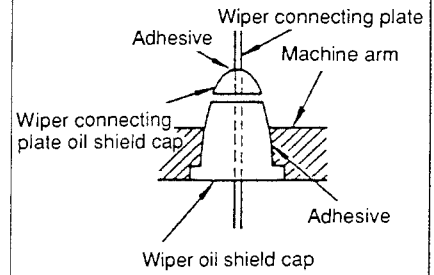

Fig. 5-44-3
- The wiper oil shield cap is adhered to the machine arm. (Fig. 5-44-3)